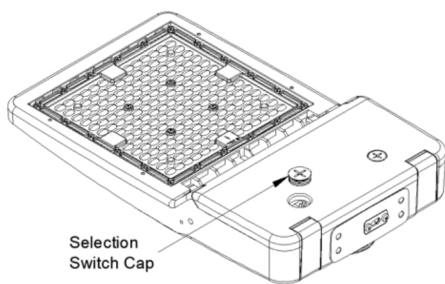

Fig. 17
1. Unscrew the CCT Selection Switch Cap as shown in Fig. 17.